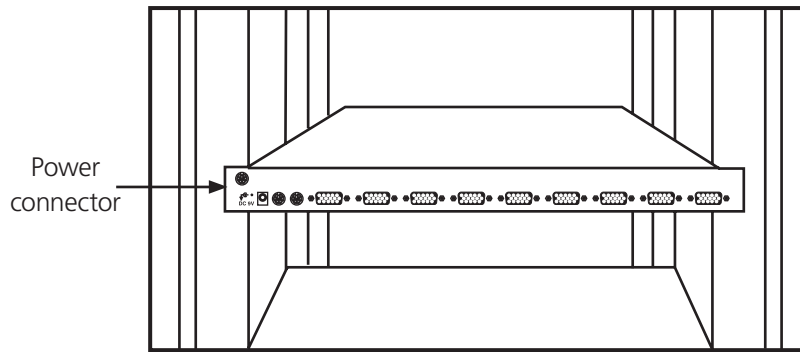

Figure 3-13. Attaching the power supply to the module.
- Connect the power supply to the power jack on the switch module. See Figure 3-13.